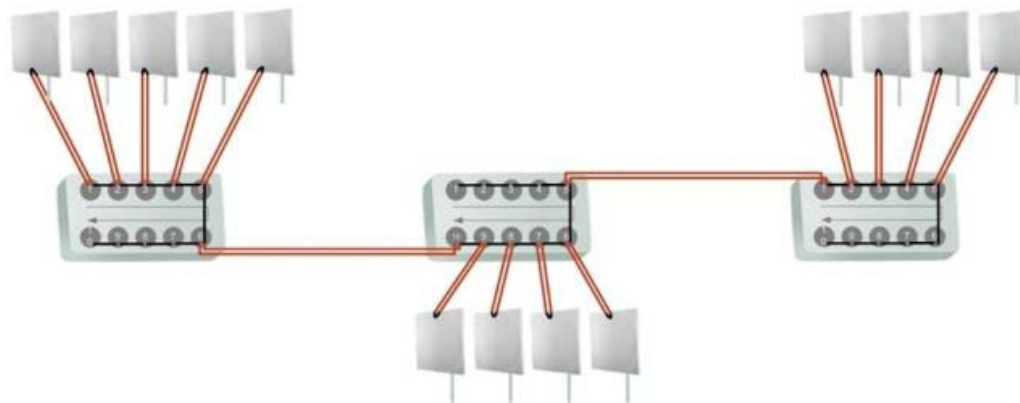

Figure 11-8: Cascading three HSS units
- ODUs are connected to the third HSS unit from SYNC 2 as shown in Figure 11-8, in **ascending order**:
Three cascaded HSS units as shown in Figure 11-8